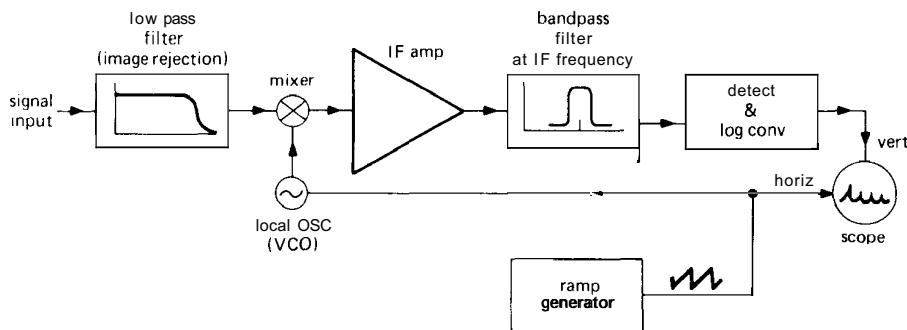

Figure 15.43. Swept-LO spectrum analyzer.
Spectrum analyzers come in two basic varieties: swept-tuned and real-time. Swept analyzers are the most common variety, and they work as shown in Figure 15.43. What you have is basically a superheterodyne receiver (see Section 13.16), with a local oscillator (LO) that can be swept by an internally generated ramp waveform. As the LO is swept through its range of frequencies, different input frequencies are successively mixed to pass through the IF amplifier and filter. For example, suppose you have a spectrum analyzer with an IF of 200MHz and an LO
chirp/Z transform. In this method a dispersive filter (delay time proportional to frequency) replaces the IF bandpass filter in the swept-LO analyzer (Fig. 15.43). By matching the LO sweep rate to the filter's dispersion, you get an output that superficially resembles the swept analyzer output, namely a linear scan of frequency versus time during each sweep. However, in contrast to the swept-LO analyzer, this scheme gathers signals from the entire band of frequencies continuously. Another interesting technique for real-time spectral analysis is the Bragg cell (or "acousto-optic spectrometer"), in which the IF signal is used to generate acoustic waves in a transparent crystal. These deformations diffract a laser beam, generating a real-time display of the frequency spectrum as light intensity versus position. An array of photodetectors completes the analyzer output. Bragg-cell spectrometers are used in radio astronomy. A typical unit has  $2\text{GHz}$  instantaneous bandwidth, analyzed into 16,000 channels of  $125\text{kHz}$  bandwidth each. When choosing a spectrum analyzer type, be sure to consider trade-offs among bandwidth, resolution, linearity, and dynamic range.